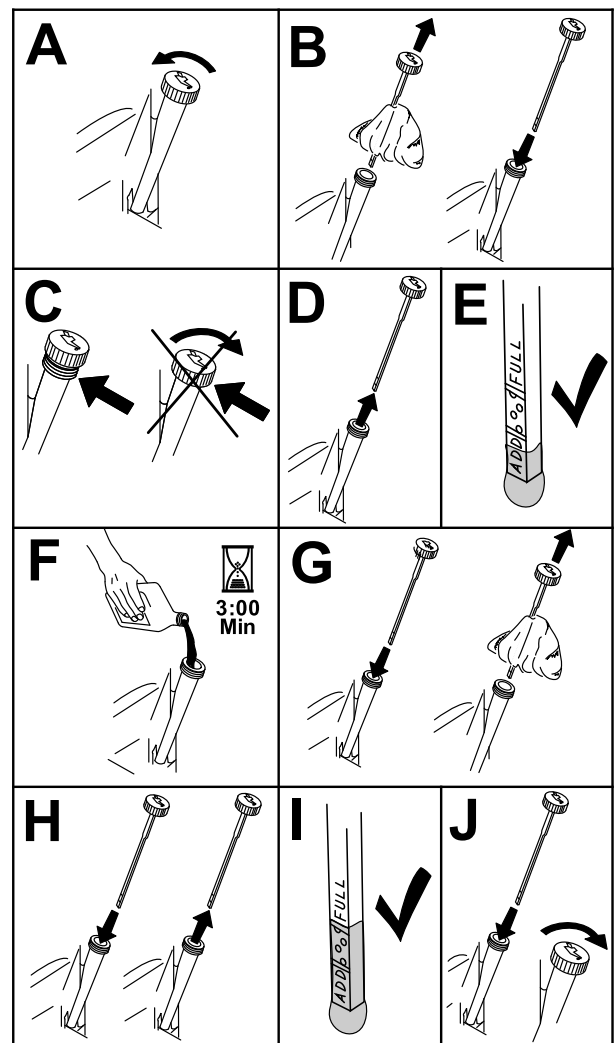

Figure 57
- To keep dirt, grass clippings, etc., out of the engine, clean the area around the oil-fill cap and dipstick before removing it (Figure 57).